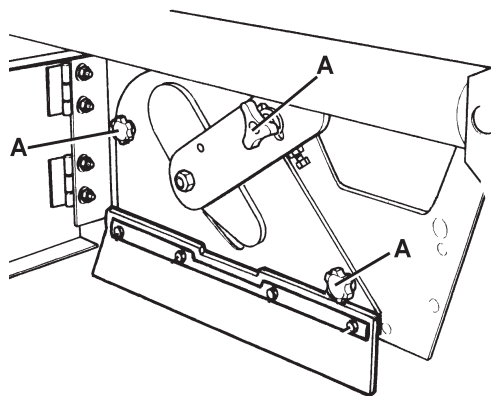
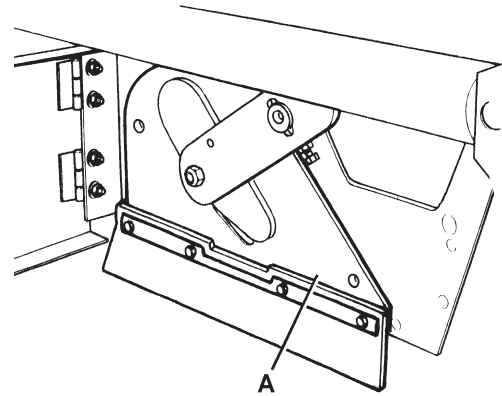

Figure 5
Figure 6
1. Drive the machine on a level floor and engage the parking brake with the pedal (82) and the lever (75).
2. Turn the ignition key (69) to "0" and remove it.
3. Release the fastener (8) and open the right door (7).
4. Unscrew and remove the knobs (A, Fig. 5).
5. Remove the main broom compartment cover (A, Fig. 6).
10. Install the main broom compartment cover (A, Fig. 6) and tighten the knobs (A, Fig. 5).
11. Close the right door (7) and engage the fastener (8).